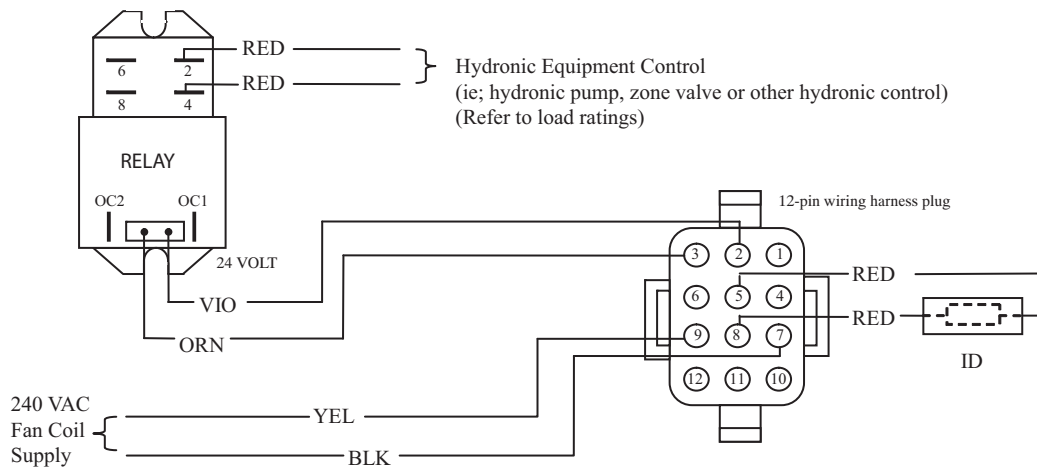

Fig. 3 - Typical Low Voltage Control Wiring
1. Pump and/or zone valves must be activated from a 24 volt circuit from the room thermostat through a 24VAC SPST Coil. Use Kit No. KFAIF0101HWC. See Fig. 3. Any enclosed type fan relay meeting voltage and amp ratings will work, but it must be enclosed in an acceptable junction box.